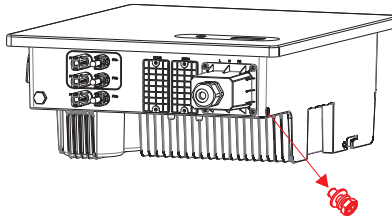

Figure 5.3 Remove the ground screws
**Step 3** Remove the ground screws from the ground points, as shown in Figure 5.3.